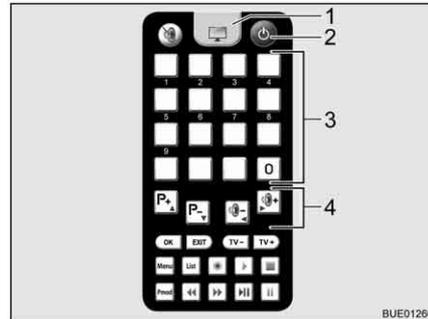

Fig. 27 Remote control for television
- Press the key "⏻" (Fig. 27,2) on the remote control for the television. The unit switches to search mode. You will hear a continuous tone.
- To switch to television reception on the TV remote control, press the TV button (Fig. 27,1). The signal tone will stop. An image will appear on the screen.
- Use the memory buttons (Fig. 27,3) on the TV remote control or the function buttons (Fig. 27,4) to select the desired station.